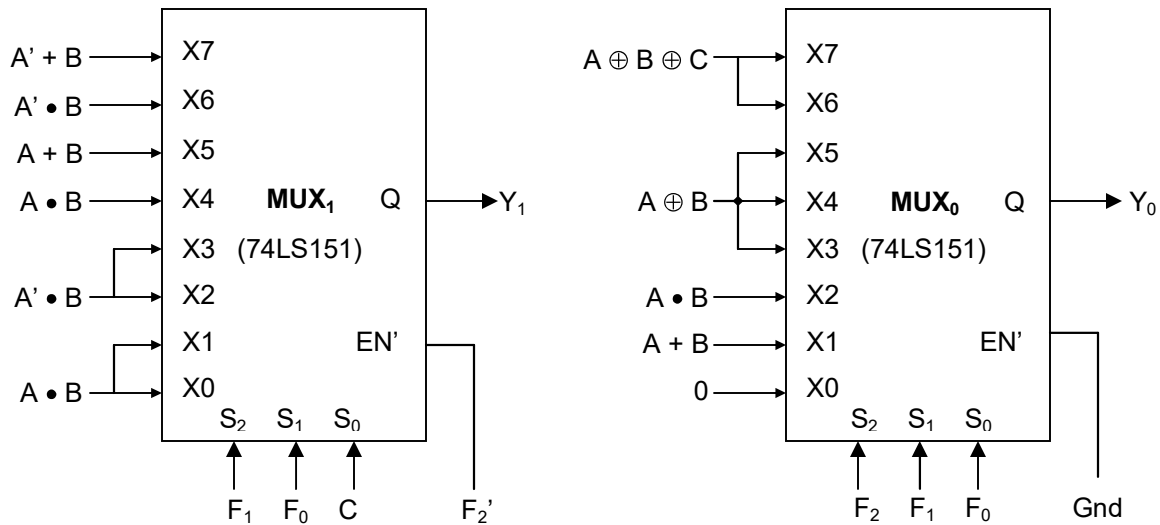

Fig. 3.2 Input connections for **MUX₀** and **MUX₁**
2. The final ALU output bits Y_0 and Y_1 will be generated by the two 8-input multiplexers – referred to as MUX_0 and MUX_1 respectively. The required data, select and output enable inputs of MUX_0 and MUX_1 are shown in **Fig. 3.2**. Note that MUX_0 is always
5. Assemble the complete circuit by adding two 74LS151 chips, used as **MUX₀** and **MUX₁**, to the circuit assembled so far, making connections to all the inputs of **MUX₀** and **MUX₁** according to **Fig. 3.2**. Use a third gate from the XOR chip to generate F_2' ($= F_2 \oplus 1$), providing the Enable input for **MUX₁**.